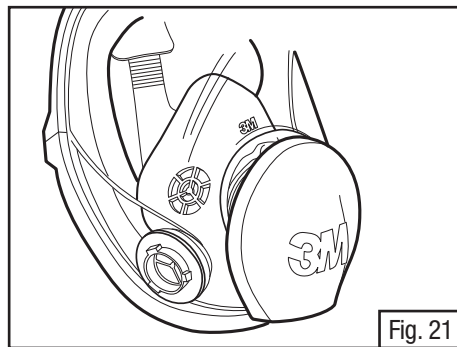

Fig. 21
2. Install new gaskets onto facepiece inhalation port bayonet fittings. Be certain gaskets are in proper position under all three bayonet lugs (Fig. 21).